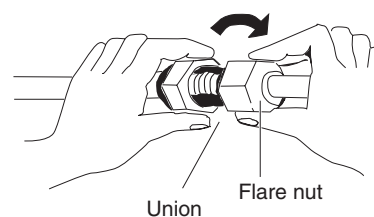

Fig. 2-26
- (3) For proper connection, align the union tube and flare tube straight with each other, then screw in the flare nut lightly at first to obtain a smooth match. (Fig. 2-26)